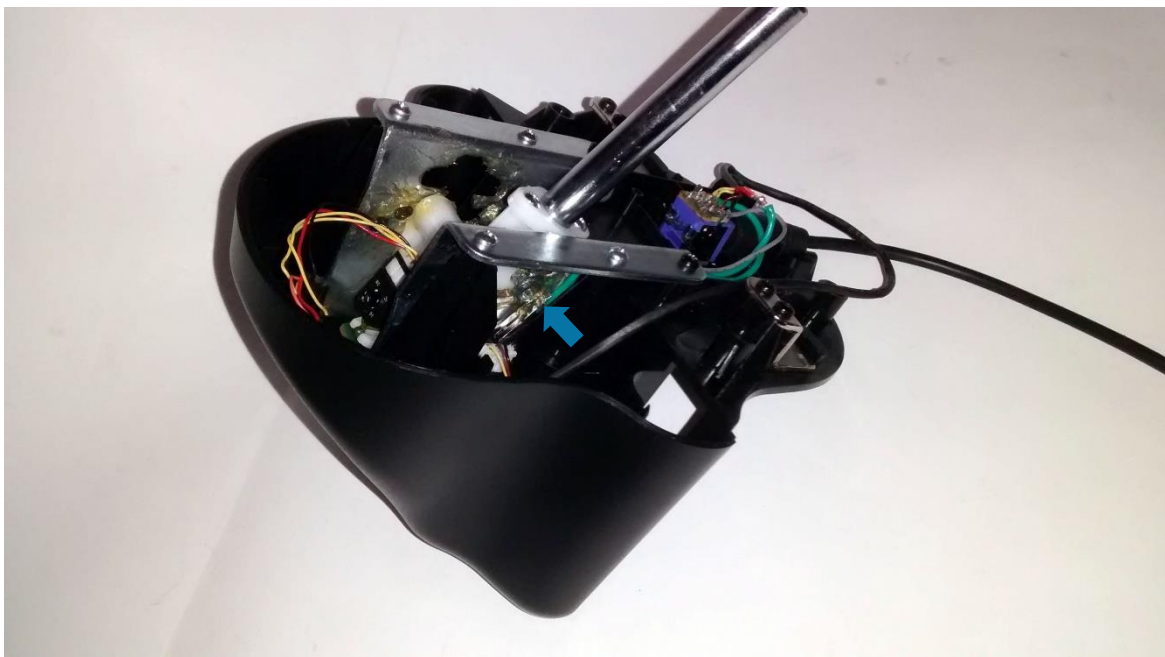

Figure 20 – Reassembled shifter assembly in 7th gear location
- Ensure that the tip of the 7th gear switch lever, as marked in Figure 20, can move smoothly and doesn't get caught on the side of the RHS shifter plate.